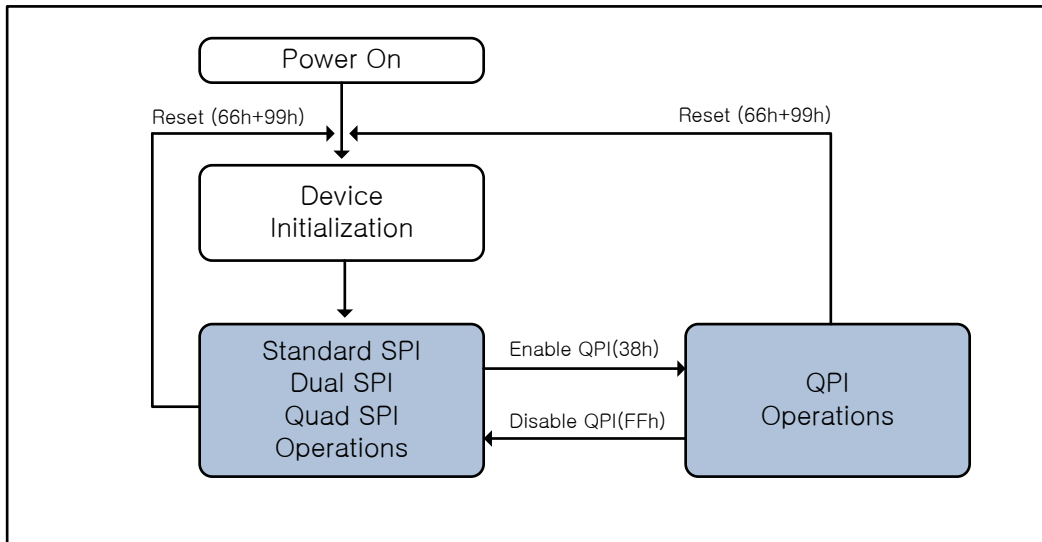

Figure 3. SPI / QPI Operation Diagram of FM25M32B
The FM25M32B supports Quad Peripheral Interface (QPI) operation when the device is switched from Standard/ Dual/ Quad SPI mode to QPI mode using the “Enable QPI (38h)” instruction. To enable QPI mode, the non-volatile Quad Enable bit (QE) in Status Register-2 is required to be set. When using QPI instructions, the DI and DO pins become bidirectional IO0 and IO1, and the /WP and /HOLD pins become IO2 and IO3 respectively. See Figure 3 for the device operation modes.